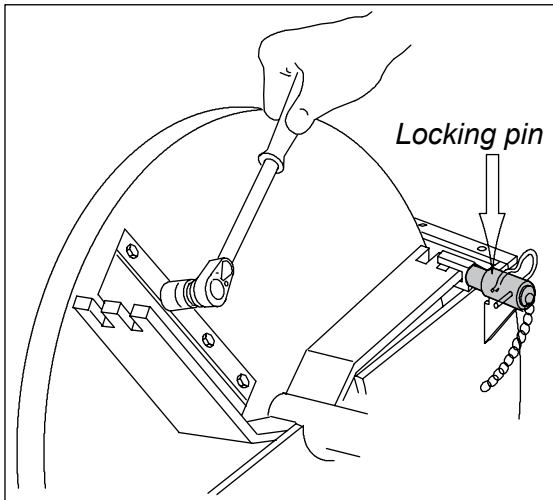

Fig. 11. Locking the disk and removing the lock nuts
- Remove the upper chamber (A) securing bolts (M6) (B) and fastening bolts (M12) (C). Turn the upper chamber to the side.
- To remove the upper chamber, remove the securing bolt (M6) (D) and hinge bolt (M12) (E).
- Lock the disk with the lock bolt Fig. 11.
1. Remove the knife lock nuts (M10). Fig. 11.